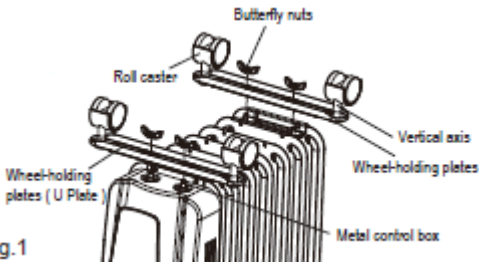

Fig.1
3. Attach the wheel-holding plates onto the heater as Fig.1 shows. The U plate is fixed between the last two fins and the other one is fixed under the